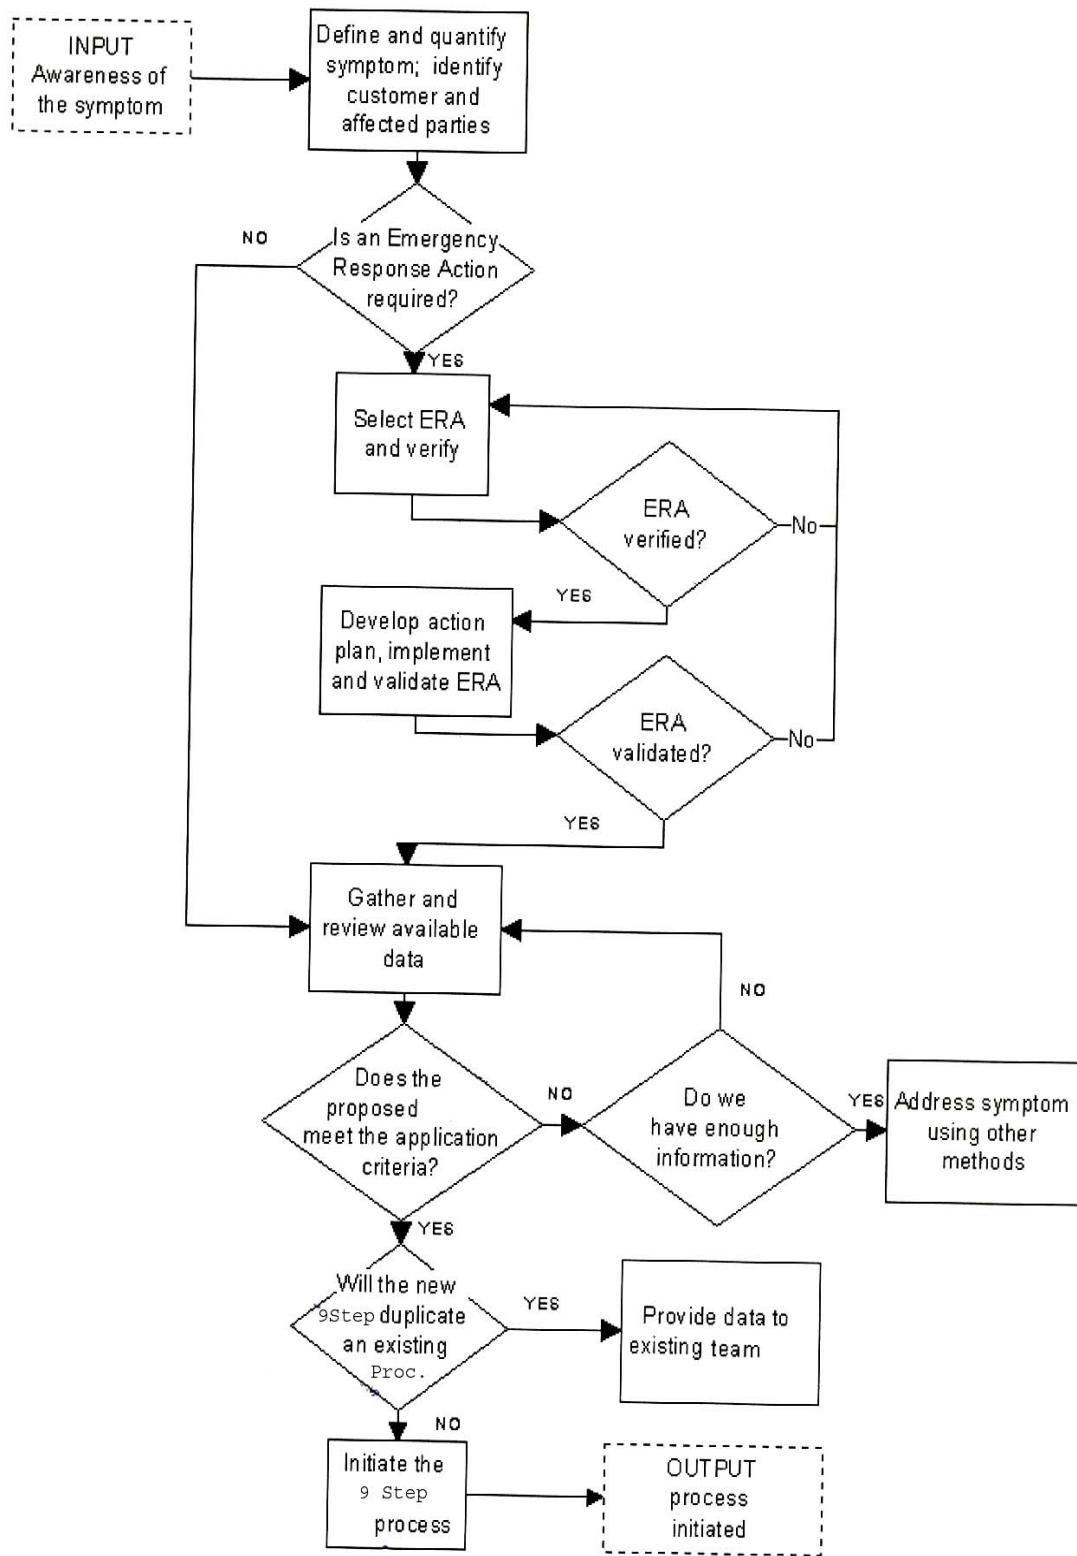

Figure 1: Prepare for 9step problem solving
- ◆ Figure 1: Prepare for 9 step problem solving